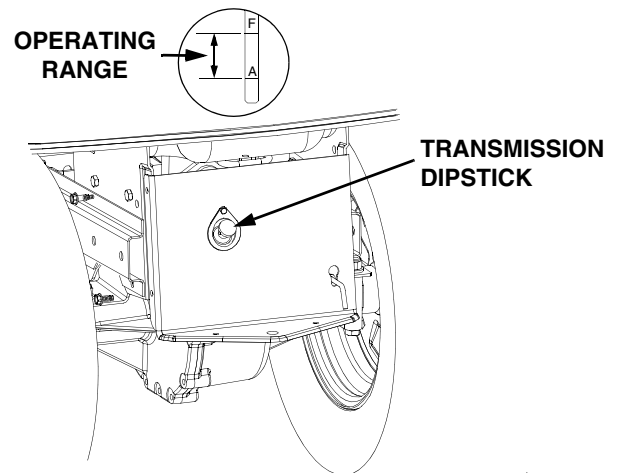

Figure 22
Check the oil level of the transmission case before each use to see that it is filled to the correct level. Before checking the transmission oil level, clean the area around the oil fill plug/dipstick to prevent debris from entering the transmission case. Always keep the oil level between the “FULL” and the “ADD” marks on the dipstick (See Figure 22). When checking the oil level, the dipstick must be withdrawn and wiped clean, then inserted all the way before being withdrawn for a true reading.
3. Remove the oil fill plug/dipstick from the oil fill port and SLOWLY pour oil into the oil fill port. Fill the transmission case until the oil level reaches the "FULL" mark on the dipstick (Refer to Figure 22).
6. Remove the oil fill plug/dipstick from the oil fill port and SLOWLY pour oil into the oil fill port. Fill the transmission case until the oil level reaches the "FULL" mark on the dipstick (Refer to Figure 22).